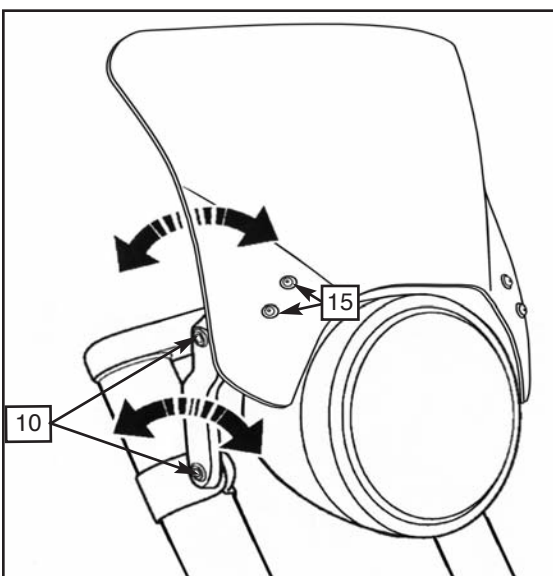

Figure 7
14. Adjust the Windshield to the desired position and securely tighten the 4 Screws (10). **(6mm Hex Wrench) Figure 7**
15. Securely tighten the 4 Screws (15) and Nuts (16) in the Windshield Brackets **(4mm Hex Wrench and 10mm Socket) Figure 7**